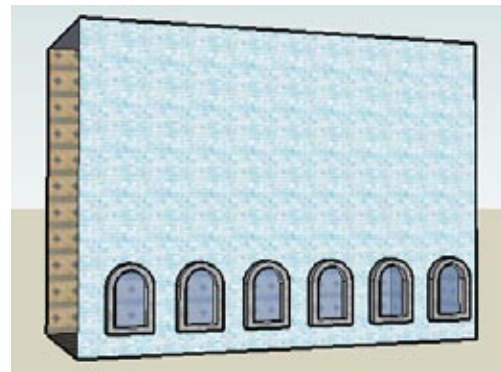

Figure 1-6
- Enter $5x$ to produce six copies (Figure 1-6). This is better, but the spacing isn't quite right. The windows should be closer together.